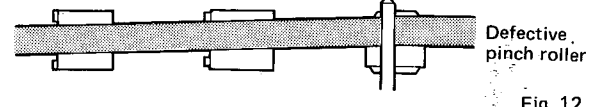

Fig. 12
There is a problem with one of the following if the tape is in contact with the tape guides as shown in Fig. 12 or 13.
- a) The pinch roller is at fault if the tape is as shown in Fig. 12.